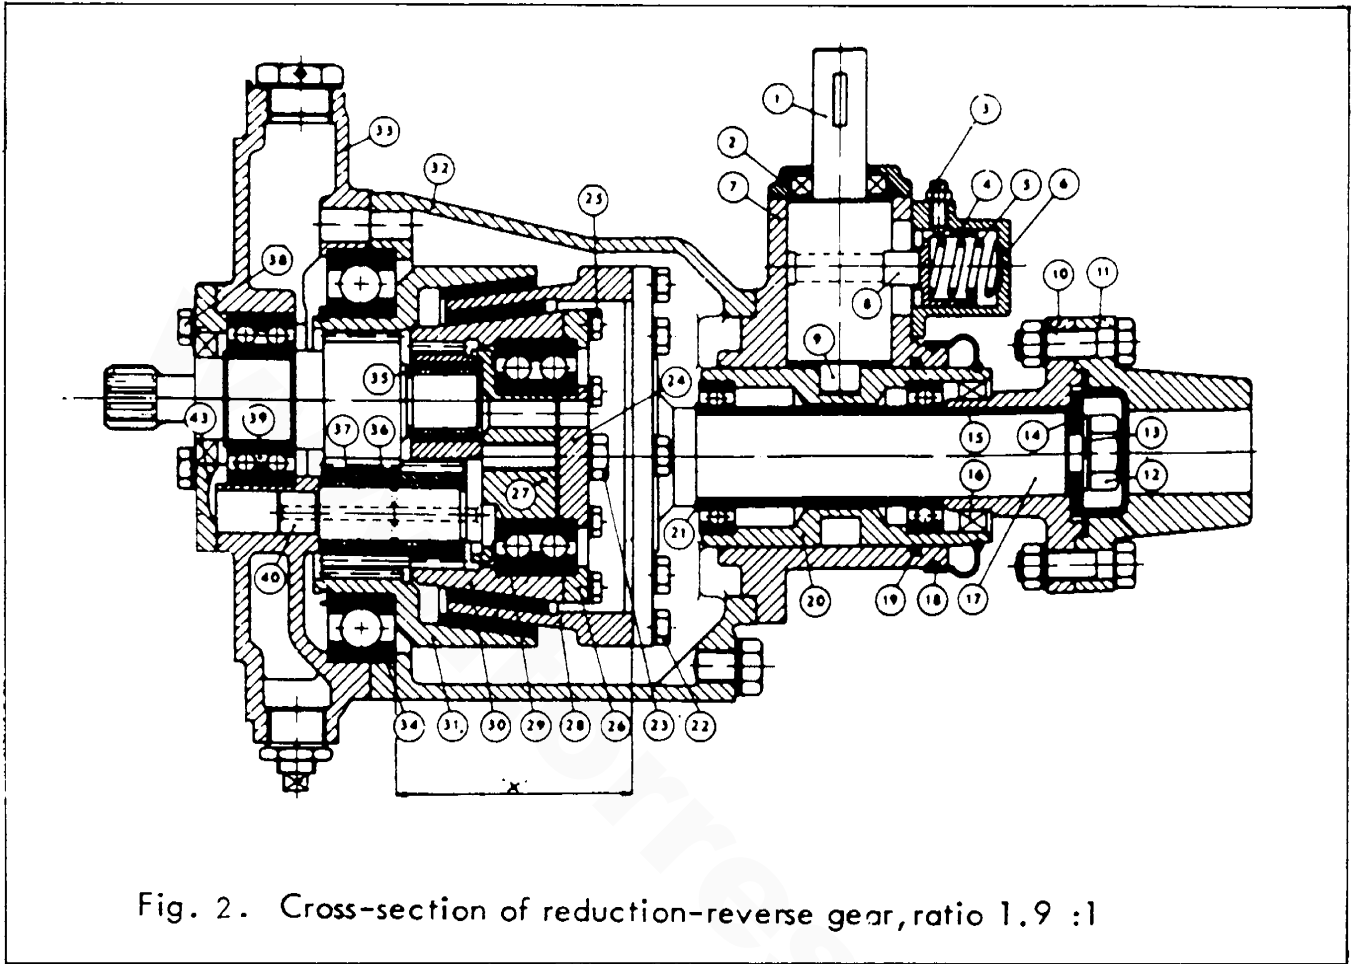

Fig. 2. Cross-section of reduction-reverse gear, ratio 1.9 :1
The repair instructions refer to Fig. 2 for ratio 1.9 :1.
3. Remove the bolt (12) and pull off the coupling flange (10). Also lift off the rubber protector (18). The key (15) need not be removed.
4. Remove the reverse gear lever from the control shaft (1). Then remove the cover (2). Pull out the control shaft (1) and the eccentric stud (9) (note the position of the stud which has marked sides).
5. Remove the bolts which secure the reverse gear housing (32) to the casing (33). Part the casing from the housing by means of light blows with a mallet.
6. Remove the bolts (22) and take out the shaft (17) with the sleeve (20).
8. Remove the bolts (23) and the washer (24). Place one of the bolts (23) in the center hole of the support bearing (27) and pull off the gear wheel (30). If the ball bearing (29) is to be removed from the gear wheel, remove the bolts (25) and the ring (26) after which the ball bearing is pressed out.
9. Lift out the cone (28).
10. Remove the gear wheel (31) with bearing (34) from the housing (33). For the reduction-reverse gear with ratio 1.9 :1, removing is made easier by tapping carefully on the bevelled side of the gear wheel (31),
11. See Fig. 2. Remove the bolts (38). The flange (44) need not be removed from the shaft. Press out the shaft (42) together with the cover (43) and the ball bearing. Pres-
12. Drive out the shaft (40) with the gear wheel (37) and the bearing (36). With regard to taking care of the bearings, see point 11.
13. See Fig. 2. Removal of flange (44) and bearing (3) from the shaft (42) should be done in a press after the locking flange has been removed. Pressure must not be applied to the outer circumference of the flange (44).
See Fig. 2. Friction lining wear on the gear wheel (31), which is most subjected to wear, is compensated for by increasing the thickness of the shim (21) as follows: Place the cone (28) in the gear wheel (31) and measure the distance "X" shown in Fig.4. The amount by which the measurement "X" is less than 85mm (3.35") determines how much the thickness of the shim (21) shall be increased. For example, if the distance measures 83mm (3.29"), then a 2mm (0.08") thick shim should be fitted. If the wear is so great that the measurement "X" is less than 81mm (3.19"), then the worn parts must be replaced. The friction linings in the gear wheel and cone are not interchangeable.
1. Fit the bearing (36) and the gear wheel (37), also press the shaft into the housing.
2. Fit the gear wheel (31) with bearing (34) into the housing (33).
3. See Fig. 2. Fit together the shaft (42), bearing (39), cover (43) and the flange (44) into one unit. The ball bearing (39) is fitted so that the recess on one side of the bearing (Fig.7) faces opposite the teeth on the shaft (42). If the sealing ring in the cover (43) shows the least sign of damage or if it has been removed from the cover, it should be replaced by a new one. A protecting sleeve should be used to prevent damage to the sealing ring by the passage of the keyway in the shaft (42).
4. See Fig. 2. Fit the shaft unit into the housing (33). Take care to ensure that the gear wheel on the shaft (42) meshes with both gear wheels (37 and 31).
5. See Fig. 2. Fit the needle bearing (35).
6. Fit the cone (28) in the gear wheel (31).
7. Fit together the bearing support (27), bearing support (27), bearing (29), cover (24) and the gear wheel (30) into one unit and and tighten on the cover (24). The ball bearing is fitted so that the recess one side of the bearing faces away from the teeth on the gear wheel (30). The bearing support (27) and the washer are fitted so that the middle through hole comes upwards.
8. Place the unit in the cone (28).
9. Fit the shaft (17) and the sleeve (20) onto the cone (28).
10. Fit the reverse gear housing (32) over the assembled parts and tighten it onto the housing (33).
11. Fit the rubber protector (18) and the coupling flange (10). Before fitting check that the bolt (12) is well tightened and that the key (15) is properly bedded down in its keyway in the shaft (17).
12. Fit the flange (9), shaft (1), locking plunger (8), sleeve (4), spring (5) and the plunger housing (6). Oil the parts liberally before fitting. The flange (9) is fitted so that its sides marked "O" follow the longitudinal direction of the engine. Fit the reverse gear lever and check the movements of the lever from neutral to "Ahead" and "Astern" positions respectively, which should be equi-distant. If the movement in one direction is appreciably more than in the other direction, this is to be adjusted by turning the flange (9). This is shaped such that the center of the rectangular portion is offset in relation to the center of the cylindrical portion (guide). If the flange is fitted so that the projecting side faces forwards, the movement of the reverse gear lever from the "Ahead" position to "Neutral" is decreased. If the flange is turned half a turn so that the projecting side faces aft, the movement of the lever from "Neutral" to the "Astern" position is decreased.